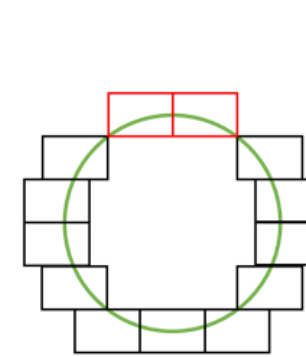

Figure 2
- Figure 2 and 3 ensure high process reliability due to the geometric structure